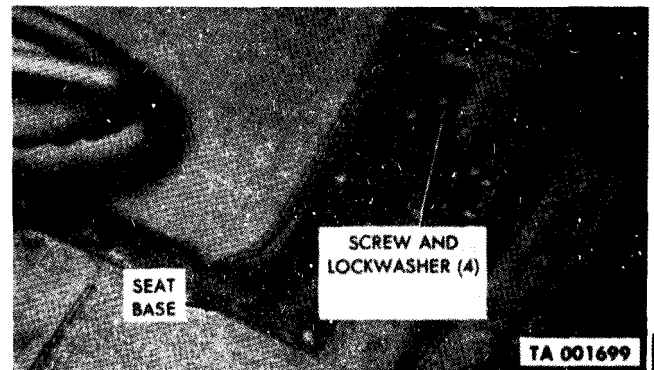

Figure 2-219.3. Driver's seat removal and installation.
*a. Removal (fig. 2-219.3).* Remove four screws securing seat base to cab floor and remove seat assembly from cab.
*b. Installation (fig. 2-219.3).* Position seat assembly in cab. Holes in seat base must be alined with holes in cab floor. Secure seat to cab floor with four screws and washers.